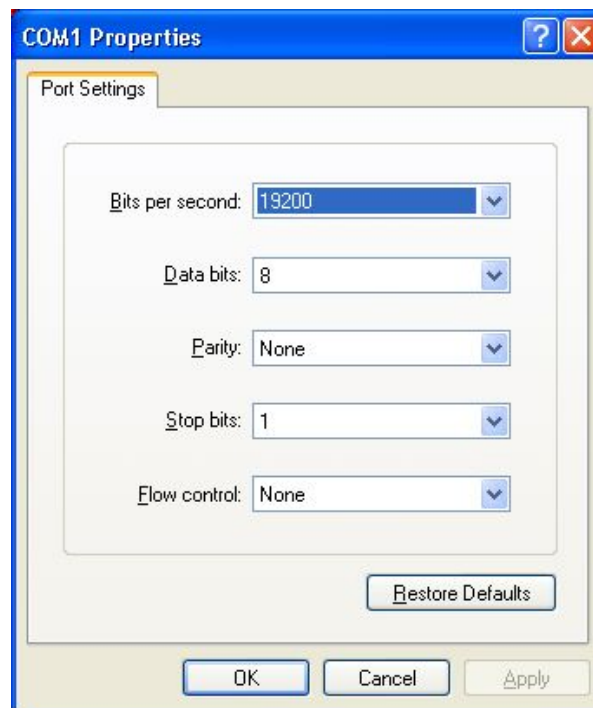

Figure 8: Port Settings
8. The Communication Settings should be set as depicted in **Figure 8** below (change as necessary).